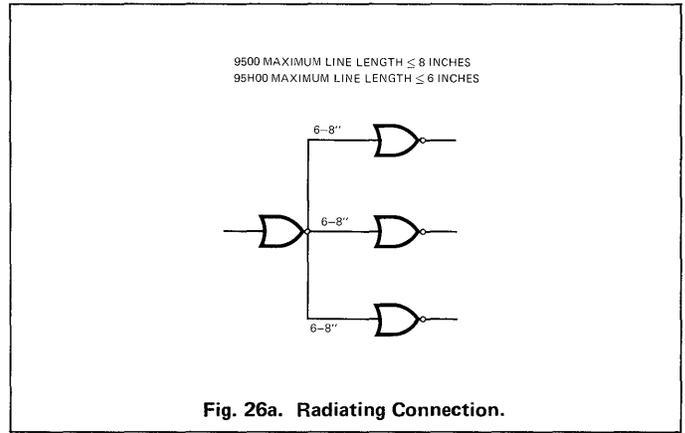

Fig. 26a. Radiating Connection.
- (1) Use PC or wired board with maximum size of 3 x 4 inches.
- (2) Keep interconnects less than 8 inches total line length. Greater lengths may be used for some applications where increased ringing is tolerable.
- (3) Use a common ground line of equal length or shorter than the common data line between interconnecting devices.
- (4) Bypass each device at the package. The two V_{CC} pins (4 and 5) are joined together to ground via a $0.02 \mu F$ capacitor to V_{EE} (pin 12) at $-5.2 V$.
- (5) Since interconnects must be very short for operation without a ground plane, the radial form interconnection shown in Figure 26a will be most practical.